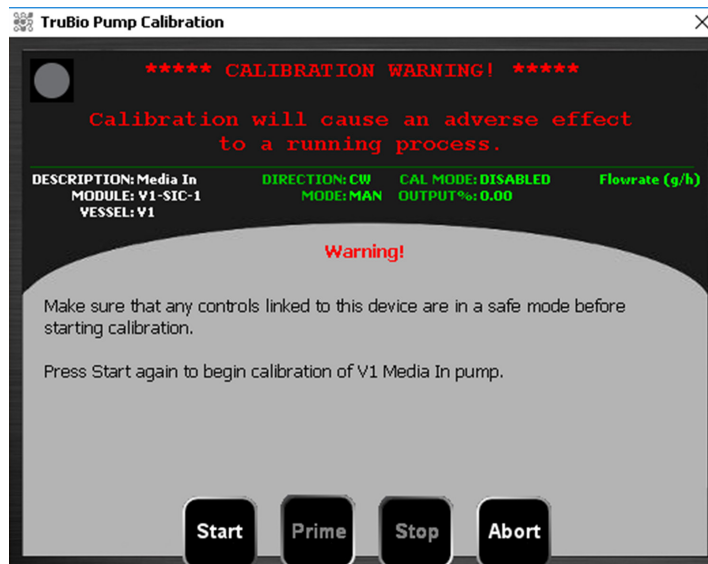

Figure 3.32. Calibration warning screen.
- At the warning screen (Figure 3.32), ensure that the device is in a safe mode and click **Start** again.
Select the type of vessel to be added (substituted) and click **Apply Values**. A confirmation window will appear warning that values will be reset (Figure 3.32). Click **Yes** to continue or **No** to cancel.